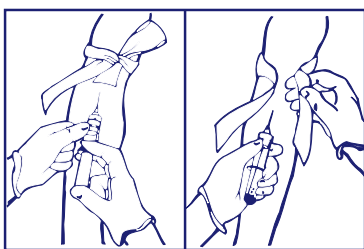

Figure 1
6. Remove needle shield. Perform venipuncture **WITH PATIENT'S ARM IN A DOWNWARD POSITION AND TUBE STOPPER UPPERMOST** (see Figure 1). This reduces the risk of backflow of any anticoagulant into the patient's circulation.